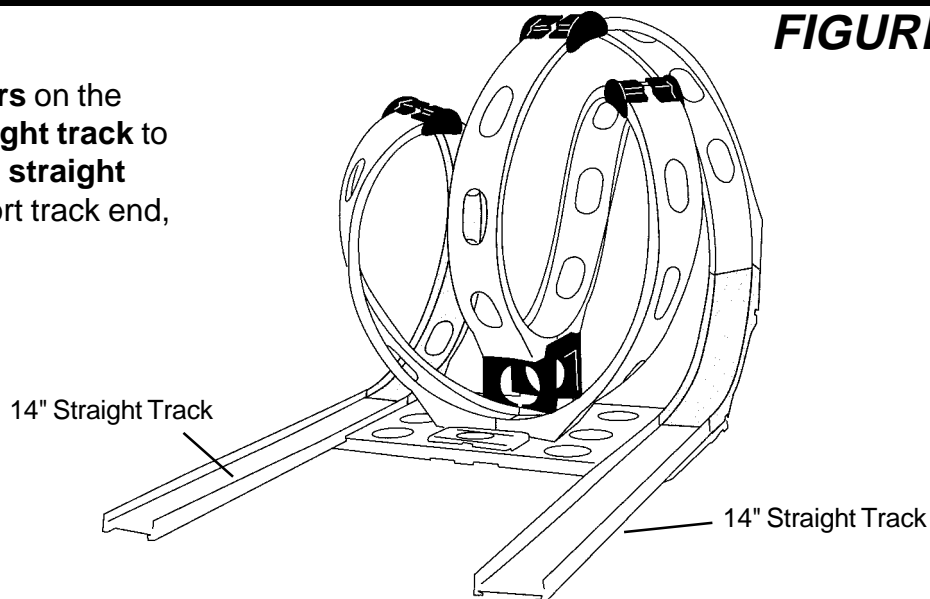

FIGURE 4
- Using the **built-in track joiners** on the baseplate, attach one **14" straight track** to the open loop end and one **14" straight track** to the open curved support track end, as shown in **FIGURE 4**.